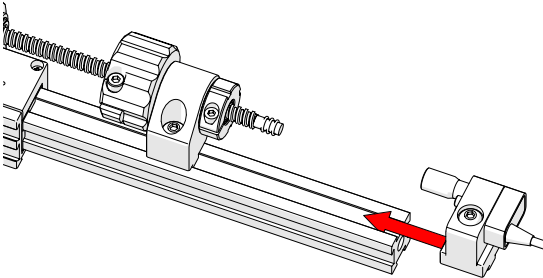
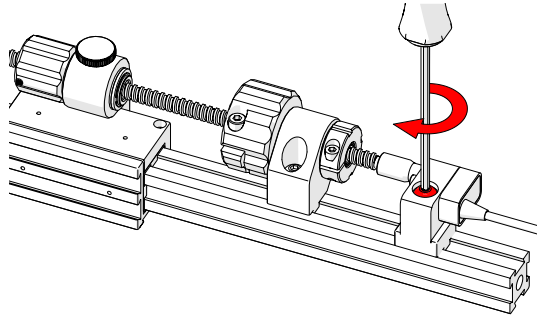

Fig. 250 - Loosen and slide post in place
Fig. 251 - Align and mount post
2. Slide the encoder's dovetail nut onto the frame bar (*Fig. 250*), continue sliding the encoder towards the leadscrew until the leadscrew is pressed snugly into the encoder's coupling (*Fig. 251*).
3. Tighten the encoder's lock screw (*Fig. 251 - note red highlight*).